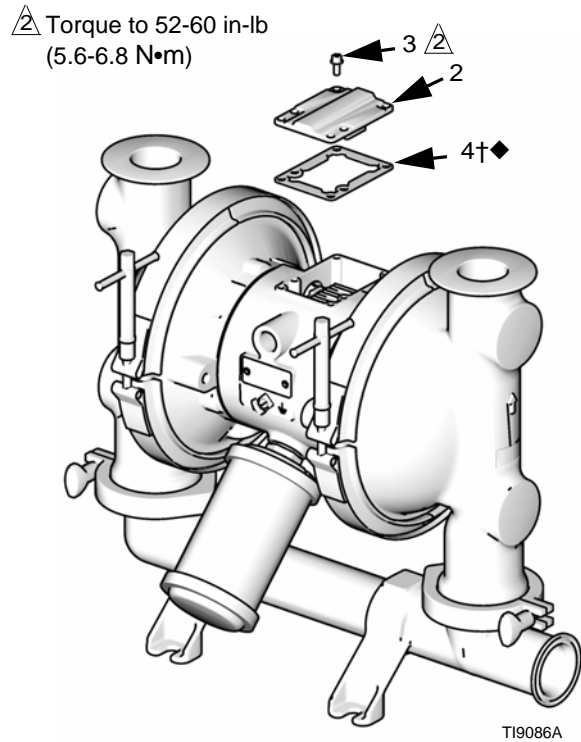

FIG. 5
2. With a Torx (T20) screwdriver or 7 mm (9/32 in.) socket wrench, remove the six screws (3), air valve cover (2), and gasket (4). See FIG. 5.
10. Align the valve gasket (4†◆) and cover (2) with the six holes in the center housing (1). Secure with six screws (3), using a Torx (T20) screwdriver or 7 mm (9/32 in.) socket wrench. Torque to 52-60 in-lb (5.6-6.8 N•m). See FIG. 5.